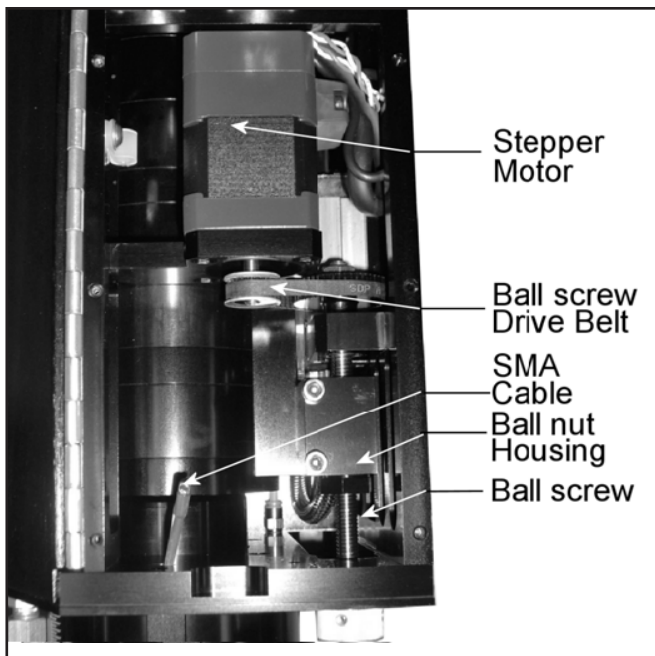

Figure 9-8 Auto Focus Drive Mechanism
1. Remove cover by removing the screws on the side cover (see Figure 9-8).
5. Apply (4) drops of Mobil Vactra #4 oil (C.I. #913071) or equivalent (ISO viscosity grade 220) directly into the top of the ball nut. Also add one drop to the ball screw shaft on either side of the ball screw.
6. Inspect supports bearings for lubrication. If dry apply (2) drops of oil (same type as step 5).